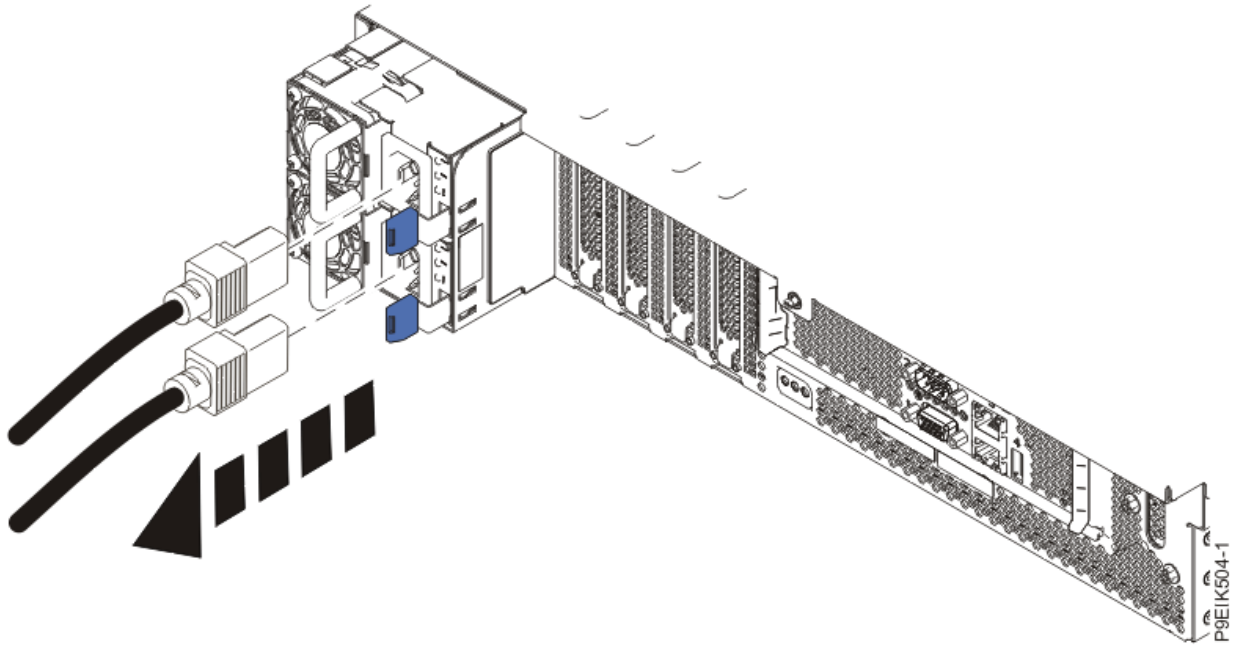

Figure 108. Removing the power cords from the system
4. Disconnect the power cords from the system unit as shown in Figure 108 on page 137.